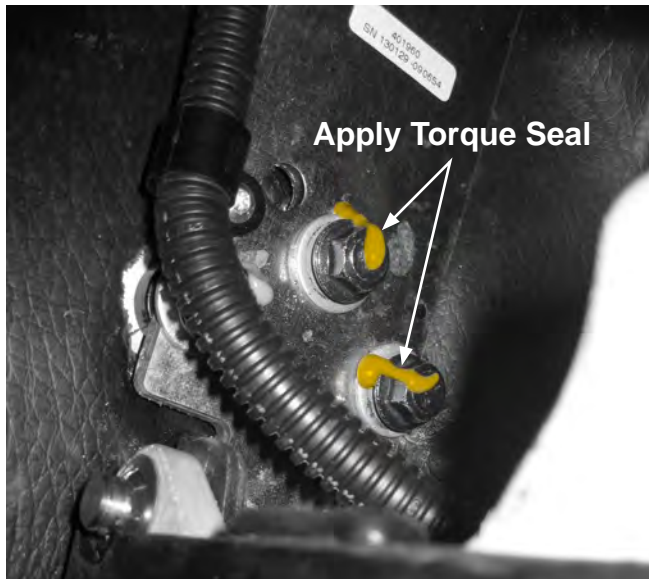

Figure 4-7
- Apply torque seal to the bolts (see Figure 4-7).